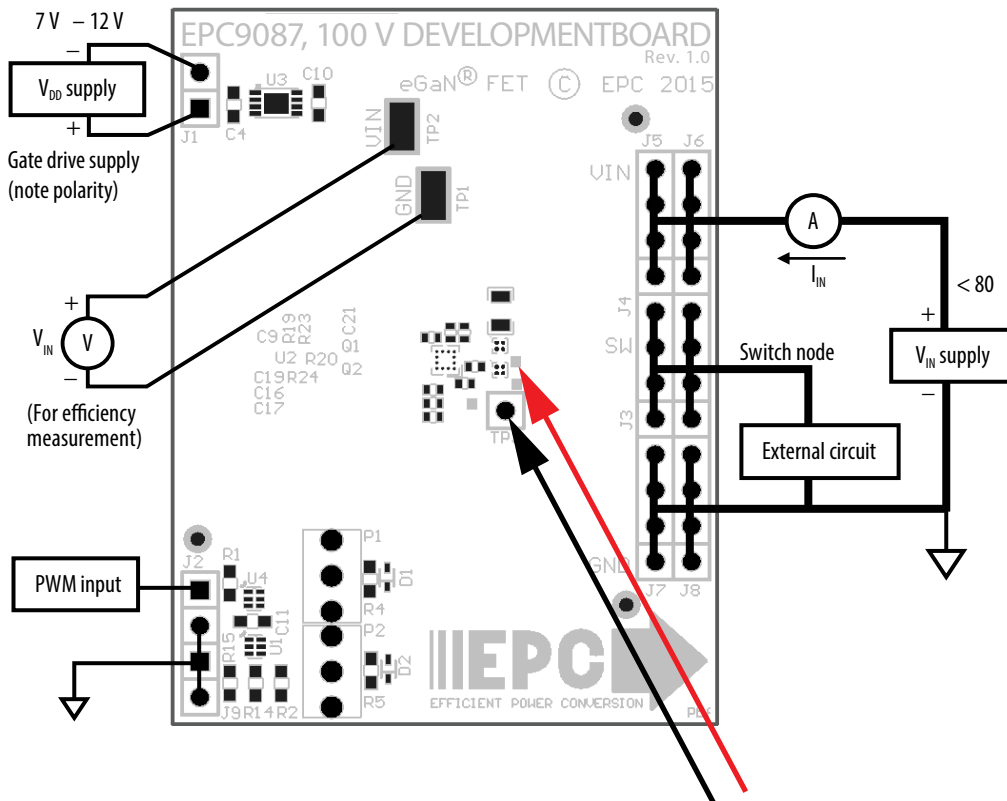

Figure 2: Proper measurement of the switch nodes.
Evaluation board EPC9087 is easy to set up to evaluate the performance of the EPC2037 eGaN FET. Refer to figure 2 for proper connect and measurement setup and follow the procedure below:
2. With power off, connect the switch node (SW) of the half bridge OUT (J3, J4) to your circuit as required (half bridge configuration).
3. With power off, connect the gate drive input power to +V_{DD} (J1) and ground return to -V_{DD} (J1) as shown in figure 2.
4. With power off, connect the input PWM control signal to PWM (J2) and ground return (J2) as shown in figure 2.